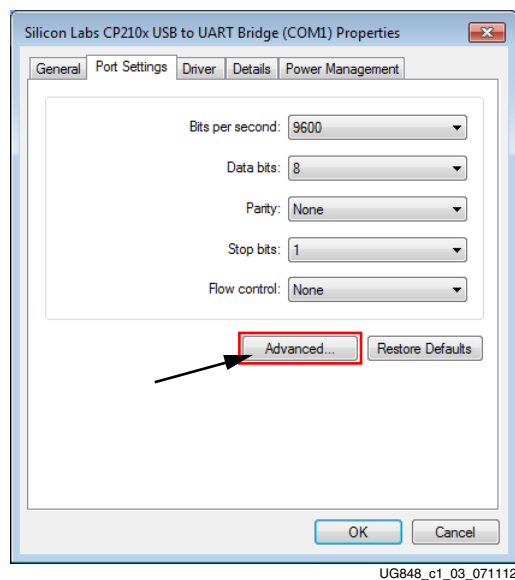
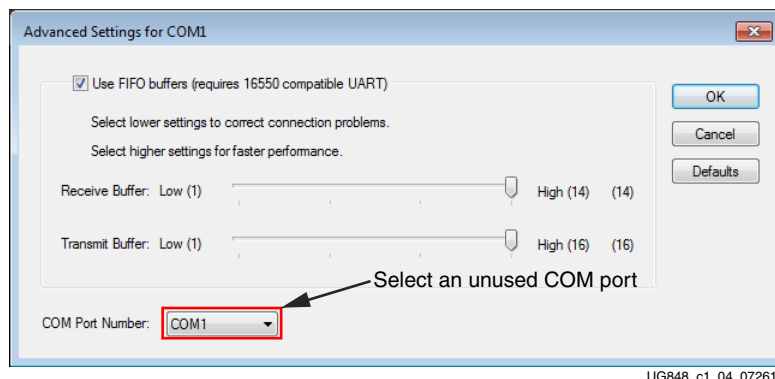
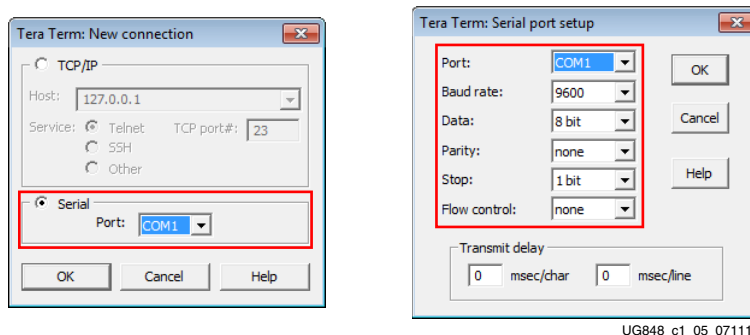

Figure 1-3: Port Settings
Figure 1-4: Advanced Settings
Figure 1-5: TeraTerm Pro Settings
5. In the properties window, select the **Port Settings** tab, verify the settings match the values shown in Figure 1-3 and then click **Advanced**.
6. Select an unused COM Port Number and then click **OK**. Figure 1-4 shows **COM1** as the selected COM port number.
7. Click **OK** in the properties window (Figure 1-3, page 7), and then close the Device Manager and the Control Panel.
To communicate with the VC707 board, configure the New Connection and Serial Port settings as shown in Figure 1-5. These settings must match the host computer COM port settings shown in Figure 1-3, page 7 and Figure 1-4.